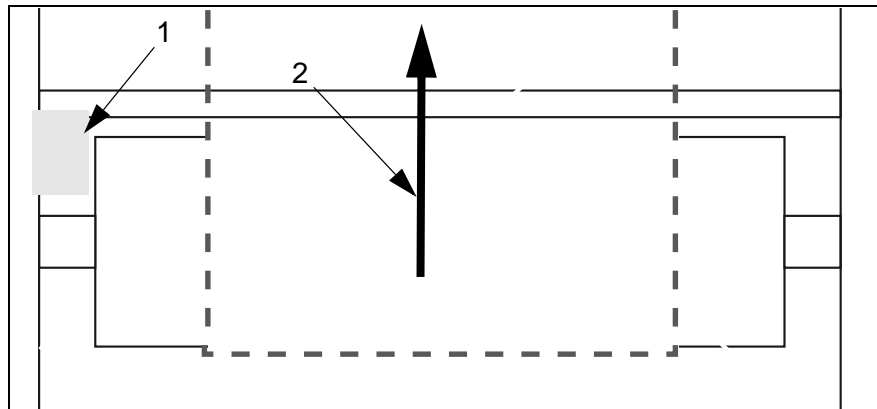

Fig. 5:
Make sure that the feather key (2, Fig. 5) lies in the keyway (1, Fig. 5) of the axle.